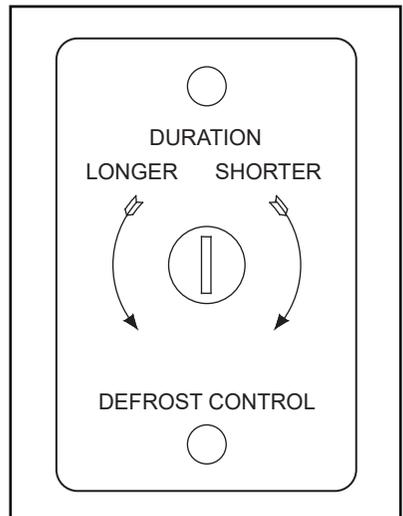
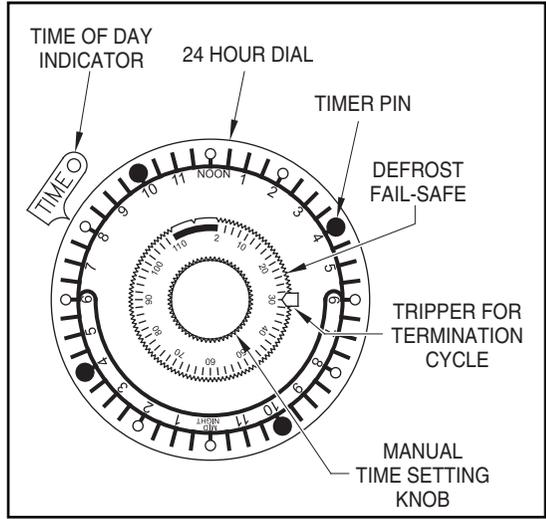

FIGURE 1: DEFROST CONTROL LOCATED ON RIGHT END OF EVAPORATOR COIL (MLT MODELS ONLY)
FIGURE 2: DEFROST TIMER CLOCK LOCATED IN ELECTRICAL CONTROL PANEL ON TOP OF WALK-IN
- **ICE DROPLETS FORMING ON THE CEILING** is a sign that the system is remaining in defrost too long after the ice clears from the coil fins. This can be corrected by turning the defrost duration screw towards the “shorter” position (Figure 1).
If freezer still remains in defrost too long, a defrost setting pin should be removed from the timer clock (Figure 2). Repeat if necessary.
- **ICE BUILD-UP ON BACK OF EVAPORATOR COIL** is a sign that the defrost period is not long enough. Turn duration setting towards the “longer” position (Figure 1). If build-up still occurs, a defrost setting should be added to the timer clock (Figure 2).
3. Not all freezers are adjustable. To find out if yours is, find the defrost control (Figure 1), or call for assistance.